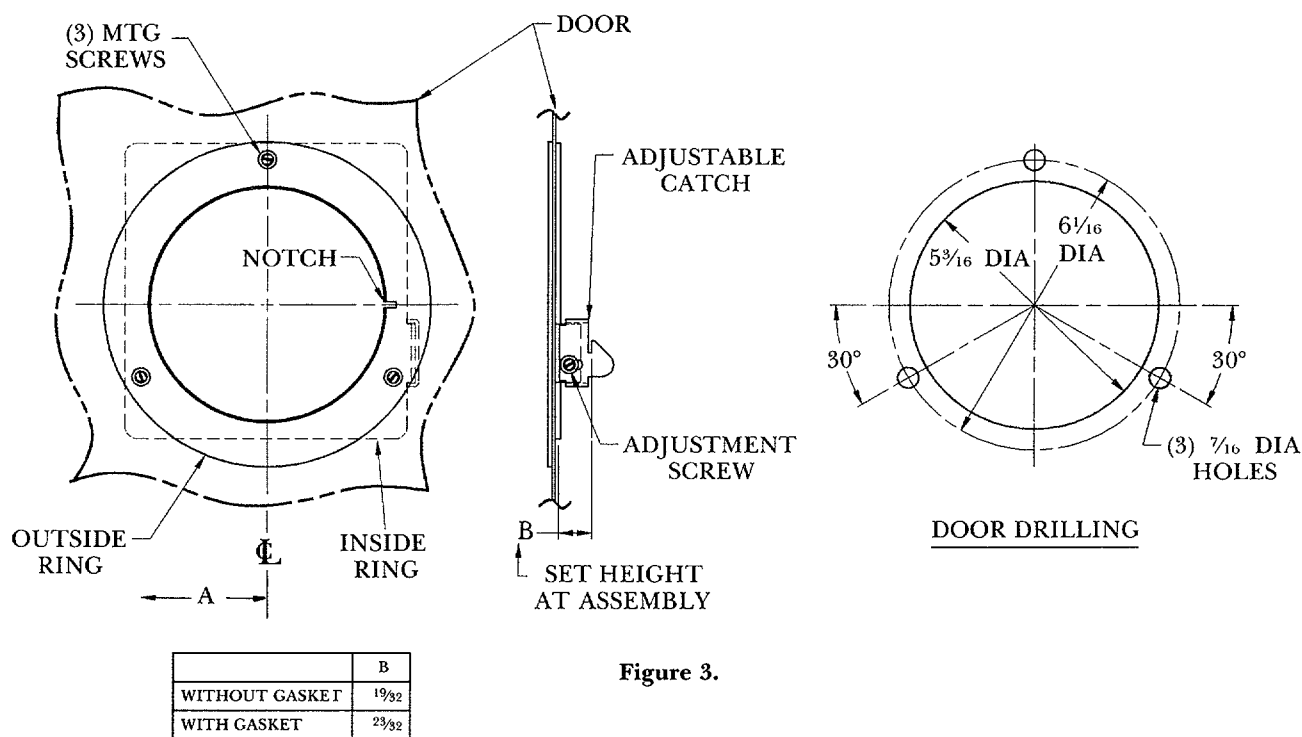

Figure 3.
The interlock catch for the circuit breaker's interior ring is a separate item that must be secured to the ring by means of the furnished screw. Refer to Figure 3 for the correct positioning.
- C. Drill three $\frac{7}{16}$ " diameter holes in the enclosure door per Figure 3.
Interior ring—secure per Figure 3.
- 1. Adjust catch height per Figure 3
For Vertical Mounting, see Figure 3.
- F. Adjust sliding interlock catch for circuit breaker per Figure 3, and tighten with furnished screw.